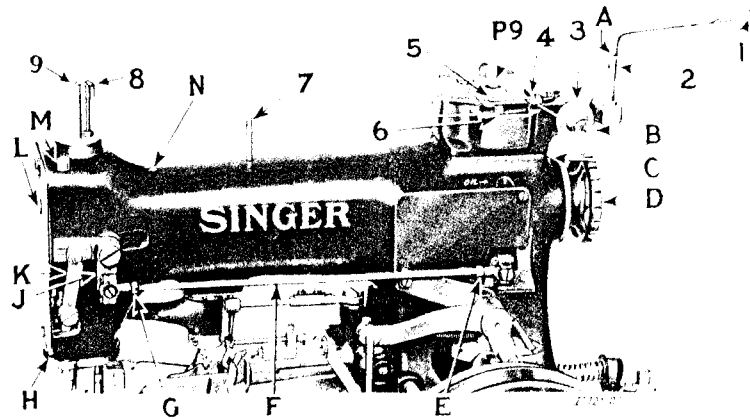
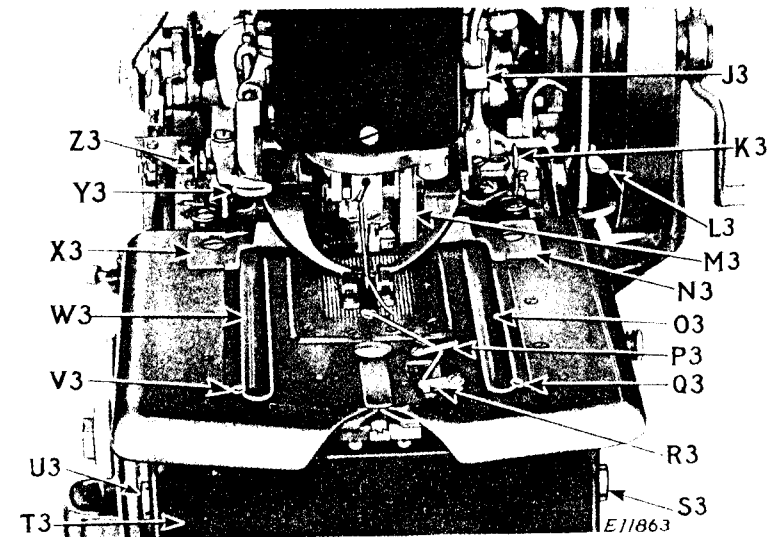
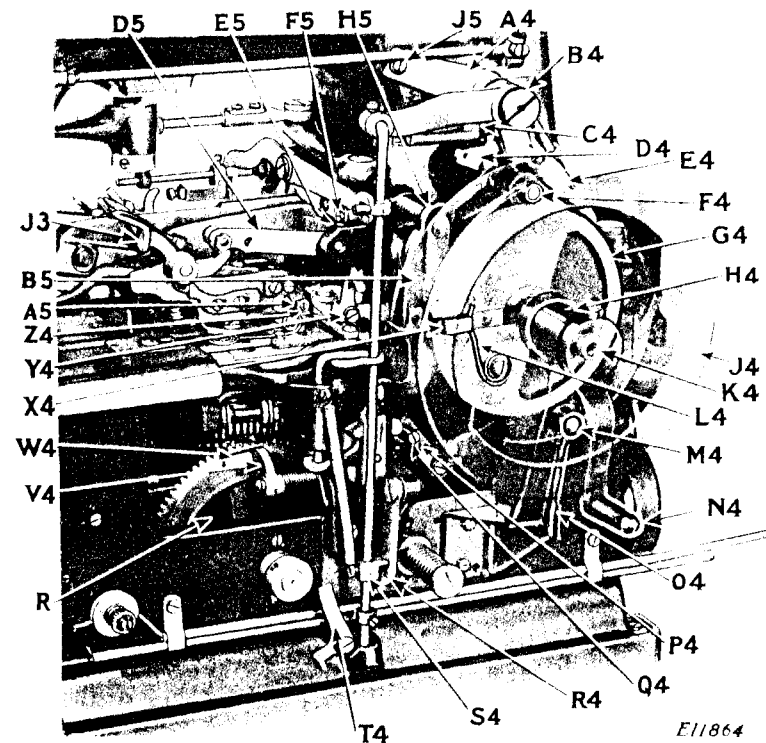

Fig. 2. Threading the Needle
Fig. 6. Threading of Machine Completed
Fig. 8. "X-Ray" View of Buttonhole Cutter Pulley Showing Buttonhole Cutter Engaging Stud and Latch
The table shaft pulley sent out with the machine for driving the sewing mechanism and buttonhole cutting mechanism is made in various sizes, as listed below, for different speeds of table shafts. Care **must** therefore be taken to see that the table shaft pulley used is of the correct size to drive the stop motion shaft (Fig. 10) at a speed of 750 to 800 revolutions per minute and the buttonhole cutting shaft (K4, Fig. 8) at a speed of 185 to 200 revolutions per minute. The correct speed of the stop motion shaft should be ascertained by placing a speed indicator at the gear end of the rapid feed crank shaft. The speed of the rapid feed crank shaft should be about 1250 to 1325 revolutions per minute. See Fig. 10.
To prevent accidental starting of the machine when threading, oiling or making adjustments, the machine can be locked out of operation by pushing the safety lock (T4, Fig. 8) back under the starting rod block (S4, Fig. 8), thus holding up the starting rod so that it cannot be depressed to start the machine. When finished threading, oiling or making adjustments, it will be necessary to unlock the machine by swinging the safety lock forward from under the starting rod block, before the machine can be started in operation.
Pass the thread from the unwinder down through the hole (1, Fig. 2) in the upper end of the needle thread leader, through the hole (2, Fig. 2) in the lower end of the needle thread leader, from back to front under between the tension discs (3, Fig. 2),
up through the slotted hole in the take-up thread guide (4, Fig. 2), down through the forward hole (5, Fig. 2), down through the hole in the end of the thread take-up (6, Fig. 2), through the hole (7, Fig. 2) in the top of the needle thread guide pin, under the needle thread pull-off (adjustable) (8, Fig. 2) and down through the hollow needle bar (9, Fig. 2) (inserting the threading wire furnished with the machine up into the needle bar from below to pull the thread through), pass the thread from back to front or toward you through the eye of the needle, as shown in Fig. 6.
**Note:** When it is necessary to place the thread unwinder at the side of the machine, the needle thread leader (1, Fig. 2) at the top of the machine should be turned in the direction of the unwinder and the thread should be passed through the hole (A, Fig. 2) instead of the hole (2, Fig. 2).
Unhook the two springs (K3 and Z3, Fig. 6) and swing out the two work clamp plates (O3 and W3, Fig. 6), then press in the buttons (S3 and U3, Fig. 6) and at the same time draw the bed end cover (T3, Fig. 6) toward you to remove it from the machine.
hook the springs (K3 and Z3, Fig. 6) to hold the plates in position. Also replace the bed end cover, then clamp the ends of the cord and looper thread in the thread clamps (P3 and R3, Fig. 6).
Unlock the machine by swinging the safety lock (T4, Fig. 8) toward you. Place the work in position in the machine so that the portion in which it is desired to make the buttonhole is directly under the opening in the work clamps. Then set the two work position gauges (N3 and X3, Fig. 6) against the edge of the work and fasten them in position. Hold the work firmly in position with the hands and at the same time press down on the finger starting lever (Y3, Fig. 6). This will trip the lever (C4, Fig. 8) from engagement with the locking head on rear of clamp closing stud (F4, Fig. 8). The stud will then be held out of engagement with the cam path in the pulley (J4, Fig. 8) by lug on latch (D4, Fig. 8) until the cam path is in the correct position to receive the stud, at which time the tripping cam block on the inside face of pulley (J4) will trip the lever (E4, Fig. 8), lifting the latch (D4) and allowing the
stud (F4) to engage the cam path in pulley (J4), causing the clamp closing lever (D5, Fig. 8) to be depressed and the work
clamps to be lowered upon the work. As the latch (Y4, Fig. 8) moves forward it engages the work clamp spreader lever, pushing this lever forward to spread the work clamps, thus stretching the fabric taut under the clamps. The stud (Q4, Fig. 8) then engages the rapid feed starting latch (P4, Fig. 8), causing the rapid feed to move the work clamp plates with the work to a stitching position and the stud (F4, Fig. 8) is forced inwardly, by the stud disengaging cam block mounted in the cam path of the pulley (J4, Fig. 8), under the stud lock plate (A4, Fig. 8) into locking position and held by the lever (C4, Fig. 8) in the locking notch. When the work clamp plates are brought to this position, the rapid feed is disengaged by the tripping point (V5, Fig. 9) on the inner side of the pattern wheel (U5, Fig. 9) coming into contact with the latch (W5, Fig. 9), and the stitching mechanism
At the finish of the rapid feeding of the work clamp plates, the rapid feed is disengaged by the tripping point (X5, Fig. 9) on the inner side of the pattern wheel (U5, Fig. 9) coming into contact with the latch (W5, Fig. 9). At the same time, the tripping point attached to the rim of the pattern wheel shaft gear actuates the buttonhole cutting starting lever (H5, Fig. 8) causing the lock (X4, Fig. 8) in the inner buttonhole cutting wheel to engage the loose buttonhole cutting pulley and at the same time the starting rod lock (R4, Fig. 8) is swung off the top of the starting rod block (S4, Fig. 8) allowing the starting rod to spring up to an operative position. As the inner buttonhole cutting wheel (G4, Fig. 8) is fastened in a rigid position on the buttonhole cutting shaft (K4, Fig. 8), the shaft is rotated when the wheel and loose pulley are locked together by the lock (X4, Fig. 8). When the buttonhole cutting shaft starts to rotate, the buttonhole cutting levers are moved into action by the operating cams on the buttonhole cutting shaft, and the cutting block is carried forward and then down on the knife to cut the buttonhole. The work spreaders are then returned to a starting position and the work clamps are raised by means of the bell crank (W6, Fig. 9) and push rod (X6, Fig. 9) actuated by the cam (R6, Fig. 9) on the left end of the buttonhole cutting shaft, after which the lock (X4, Fig. 8) in the inner buttonhole cutting wheel is withdrawn from the loose buttonhole cutting pulley, releasing the wheel from the pulley and thus stopping the rotation of the buttonhole cutting shaft. The operator then moves the work from left to right for the next buttonhole.
For the convenience of the operator, the lever (J3, Figs. 6 and 8) above the right hand work clamp plate, may be used to lower the work clamps upon the work when desired.
When it is desired to remove the work clamp plates (O3 and W3, Fig. 6) from the machine, for the purpose of making adjustments, this can be done as follows: Unhook the two springs (K3 and Z3, Fig. 6) on the work clamp plates, then swing each plate outward at right angle to the machine and lift the plates from the machine.
The tension on the needle thread is regulated by the thumb nut (B, Fig. 2) at the right of the tension discs at the top of the machine. To increase the tension, turn this thumb nut over from you. To decrease the tension, turn this thumb nut over toward you. The tension on the needle thread should be sufficiently heavy to set the purl of the buttonhole on the underside of the work.